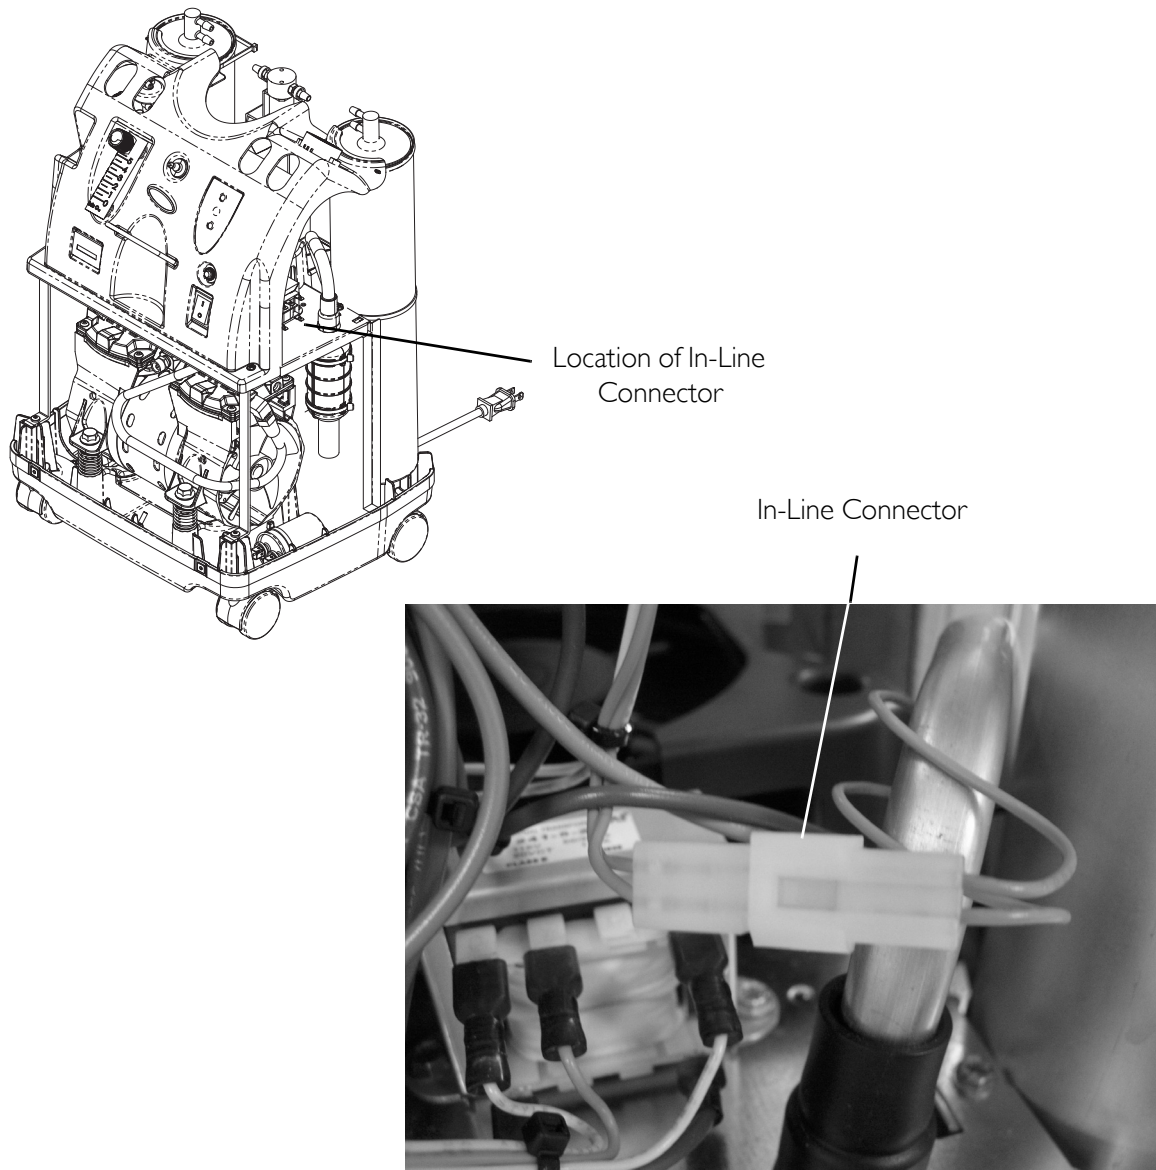

FIGURE 24.2 High Pressure Test
NOTE: For this procedure, refer to FIGURE 24.2 on page 82.
1. With the unit running and flow set at 5 L/min., disconnect in-line connector shown in FIGURE 24.2.
2. The main valve coil alarm should activate within 40 seconds. Refer to SensO₂ Alarm Threshold on page 83 for shutdown mode (FIGURE 24.2).